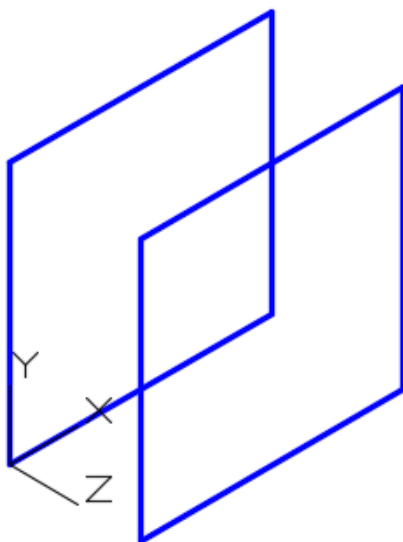

Figure Step 6
Step 6 Copy the closed pline 6 inches in the positive Z direction. (Figure Step 6)